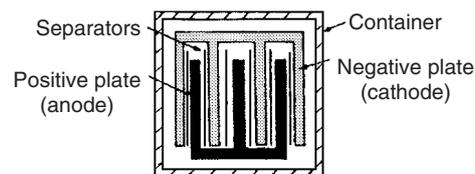

Figure 4.8
- The plates are interleaved as shown in the plan view of Fig. 4.8 to increase their effective cross-sectional area and to minimize internal resistance.